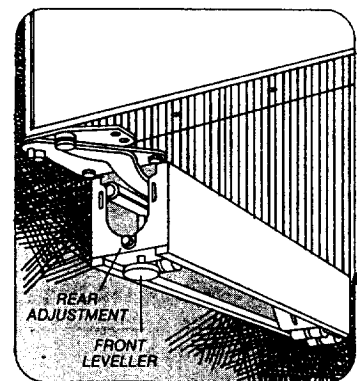

Figure 12
- 4) Using the front and rear levelers, the unit must be raised until it contacts the wood block. See Figure 12.
To reduce possibility of cabinet tipping forward, front levelers must be in contact with floor. See Figure 12.
Level the unit. To adjust height, turn front leveling legs counterclockwise to raise, or clockwise to lower. Rear levellers (rollers) are adjusted from front of base. Turn 5/16" hex bolt clockwise to raise cabinet, counterclockwise to lower cabinet. See Figure 12.